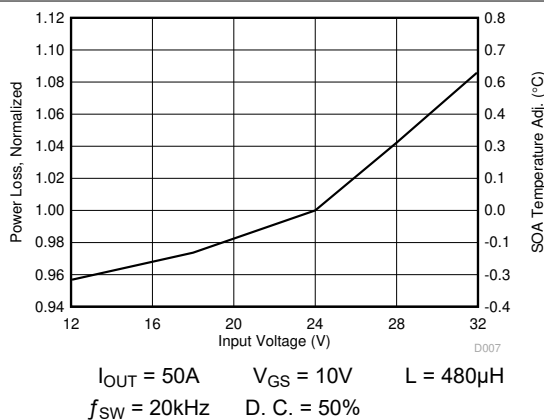

Figure 4-5. Normalized Power Loss vs Input Voltage
- Normalized power loss for input voltage $\approx$ 1.09 (Figure 4-5)
- SOA adjustment for input voltage $\approx$ 0.6°C (Figure 4-5)